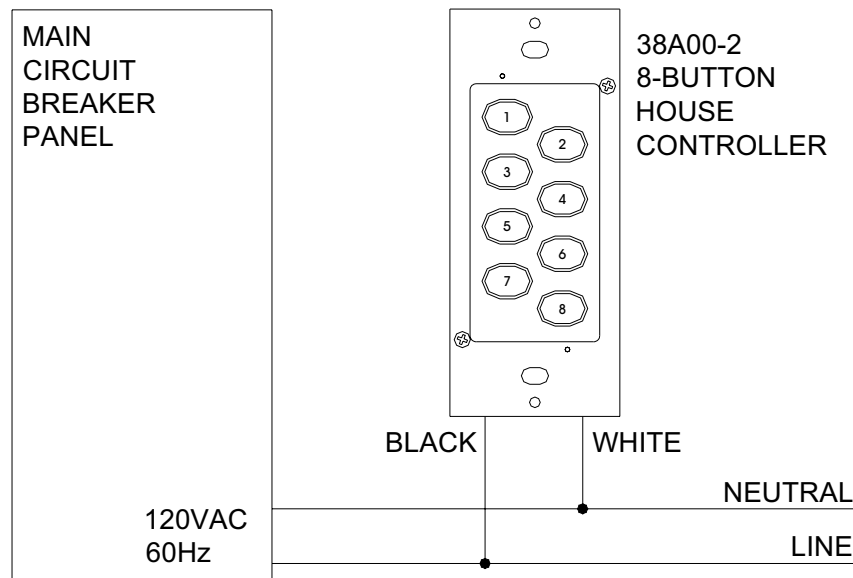

Figure 3 – Wiring Diagram
3. Remove ¾” of insulation from each of the wires on the HAI UPB™ 8-Button House Controller. Install the HAI UPB™ 8-Button House Controller by connecting wires per wiring configuration shown in Figure 3.